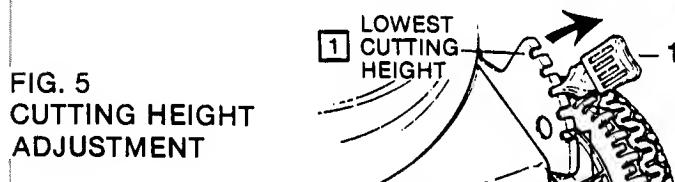

FIG. 5
**NOTE:** The highest cutting position is attained with the four latches set in notch 5. The lowest cutting position is with latches set in notch 1. Refer to FIG. 5.